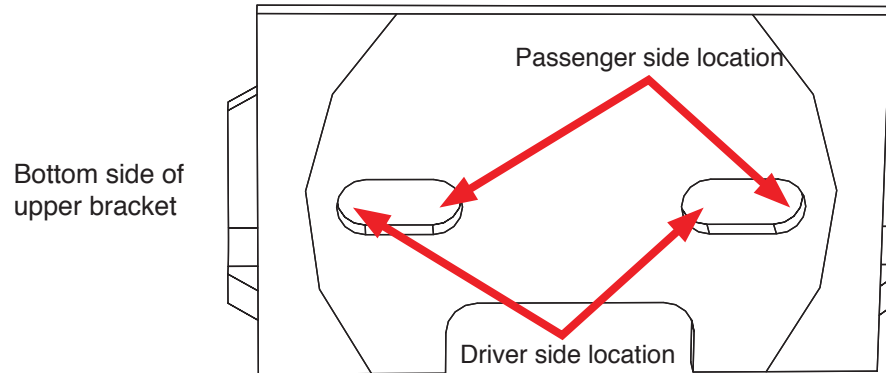

fig. 16
- The upper bracket (C) has two slots for mounting to the air spring and will be specific to which side the assembly is mounted. Figure 16 shows the upper bracket and the correct holes to use for the left (driver) and right (passenger) side installations. Torque the mounting hardware to no more than 20ft-lbs.